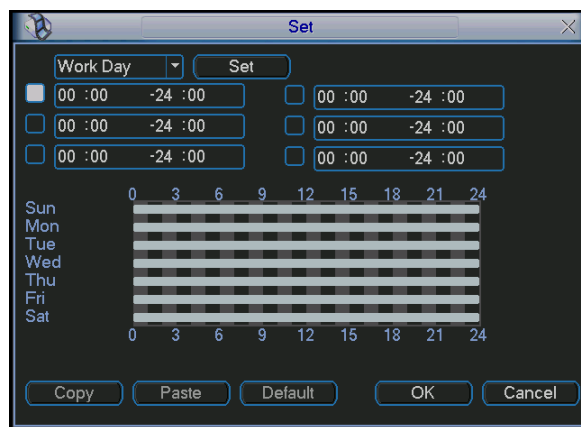
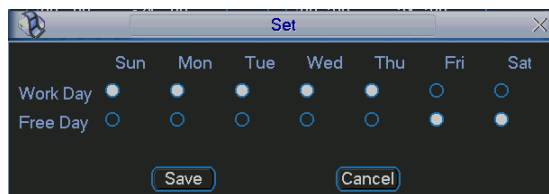

Figure 4-25
Figure 4-26
- Period: Click set button, you can see an interface is shown as in Figure 4-25. Here you can set for business day and non-business day. In Figure 4-25 click set button, you can see an interface is shown as in Figure 4-26. Here you can set your own setup for business day and non-business day.